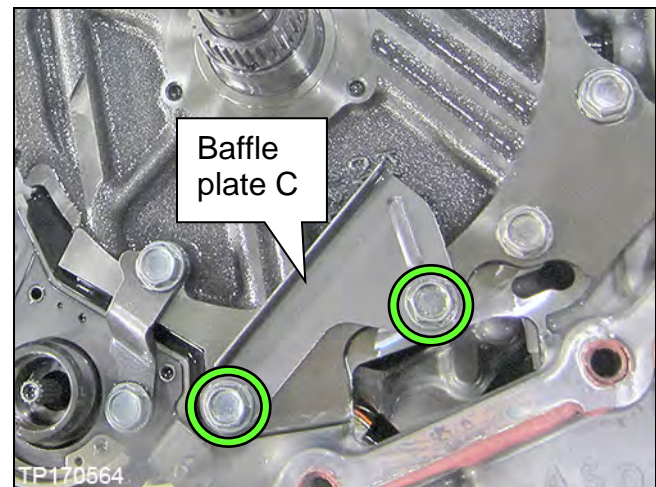

Figure 18B
12. Remove the two (2) bolts from baffle plate C, and then remove baffle plate C (Figure 18B).